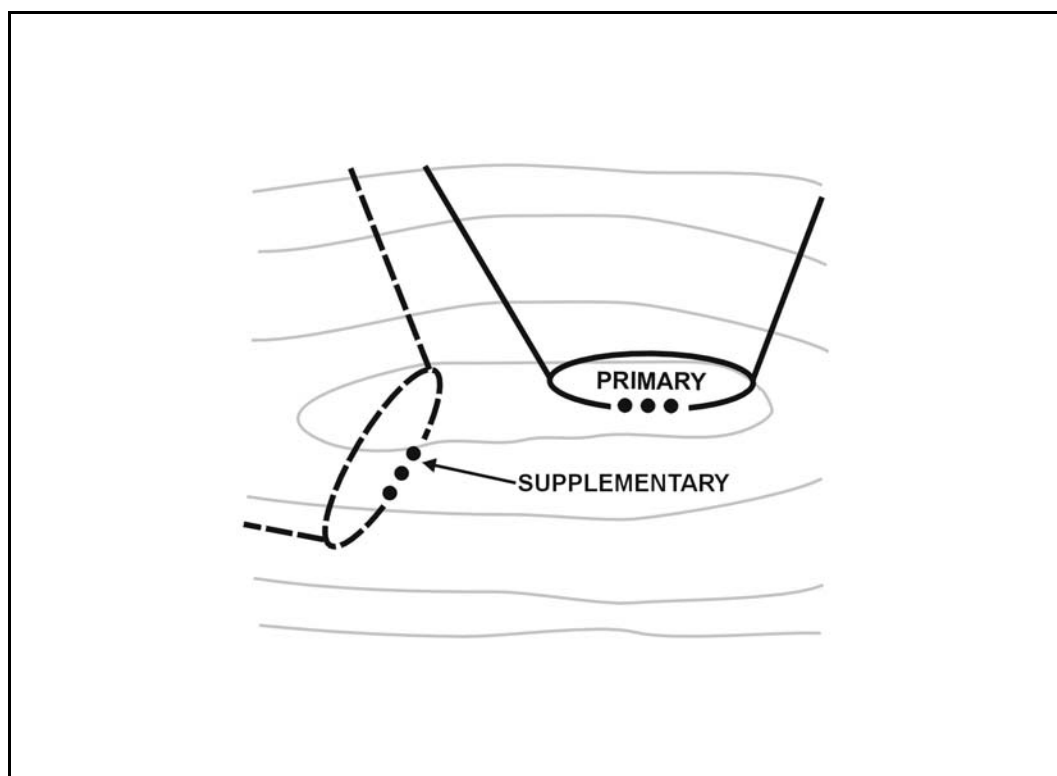

Figure D-2. Supplementary position.
(1) As a guideline, an alternate position should be located 300 meters or more (METT-TC dependent) from the primary position to reduce the chance that indirect fire that suppresses the primary position also will affect the alternate position. Though terrain may not allow this much space, leaders should always consider this guideline when selecting alternate positions.
(2) If the antiarmor squad leader selects alternate positions, he should report the locations of each alternate position to the section leader and platoon leader.
c. **Supplementary Position.** The supplementary position (Figure D-2) allows the antiarmor squad to cover an enemy avenue of approach or sector of fire that is different from that covered by the primary or alternate positions. It usually is chosen to cover avenues of approach to the flank or rear of a unit. The antiarmor squad reconnoiters this position and prepares a range card. Leaders will typically base occupation of a supplementary position on specific enemy actions.